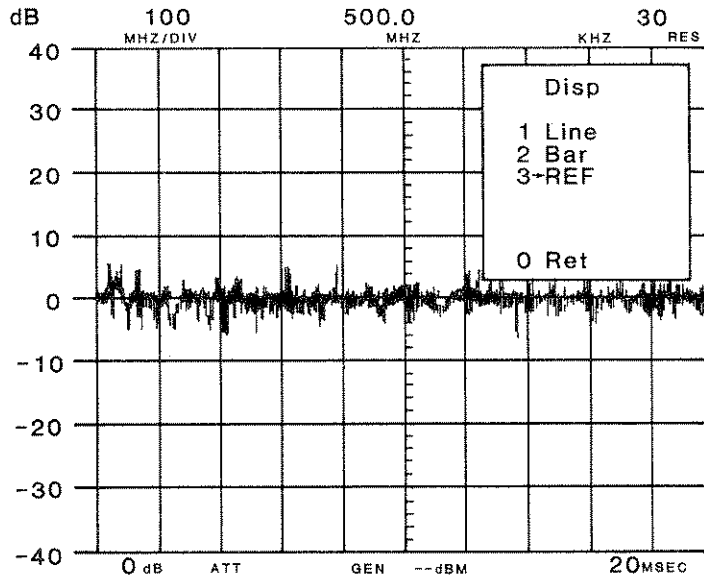
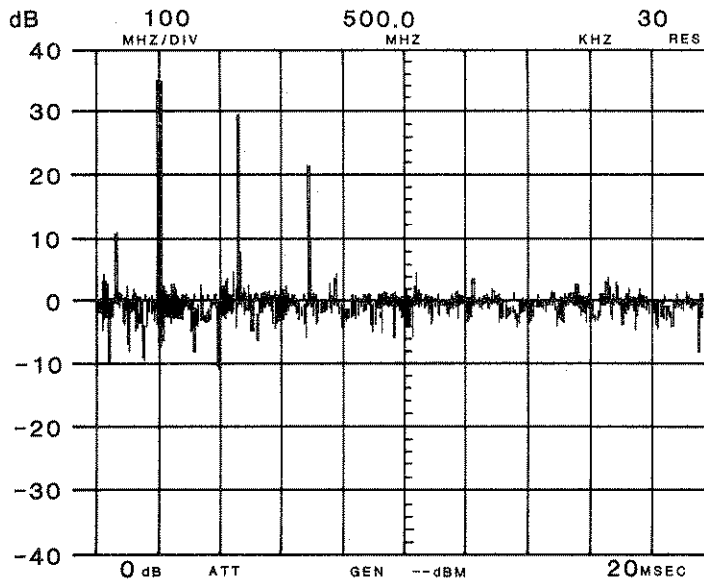

Figure 7-7 Reference Display (with Ambient Signals Zeroed)
Figure 7-8 Reference Display with UUT Turned On
3. Enter the Display Menu (Press: "1") and select the REF display (Press: "3"). See Figure 7-7.
4. Turn on the unit to be tested for EMI. Watch for signals which appear when UUT is turned on. Note, in Figure 7-8, the signal at 100 MHz, 225 MHz and 330 MHz as a comparison to the signal in Figure 7-7. These signals are from UUT.